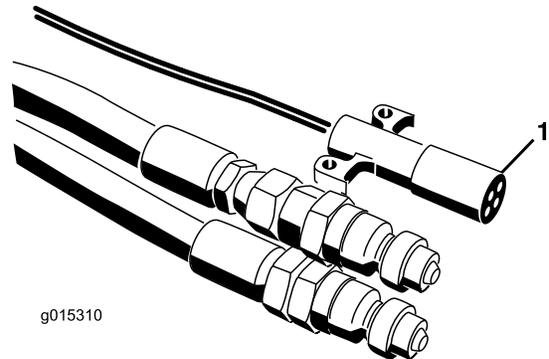
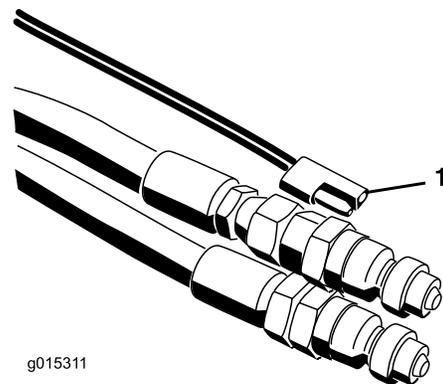

Figure 21
Figure 22
7. Connect the power harness to the tow vehicle (Figure 21 and Figure 22). On SH models place the on/off pendant within reach of the driver's seat. Ensure that the switch is off.